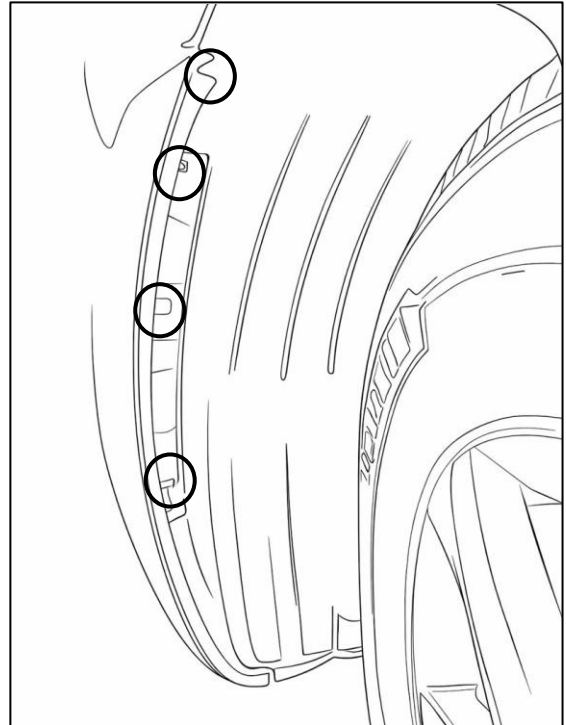

Figure 4: Wheel Well Push-Pins
6. ☐ Use a push-pin remover and a slotted screwdriver to remove the (12) plastic push-pins that are located on the outer edges of the bumper. **See Figures 4 and 5.**